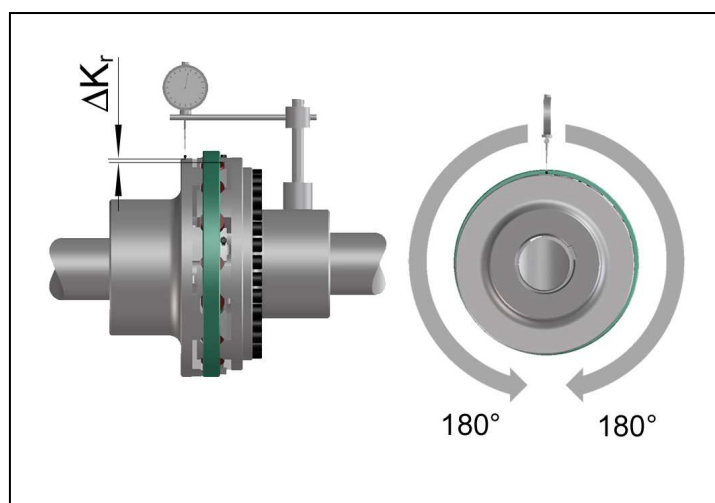

Fig. 8
- Measure one complete revolution ( $360^\circ$ ). Determine the largest deviation  $K_{r1}$  and the smallest deviation  $K_{r2}$  (Fig 8).